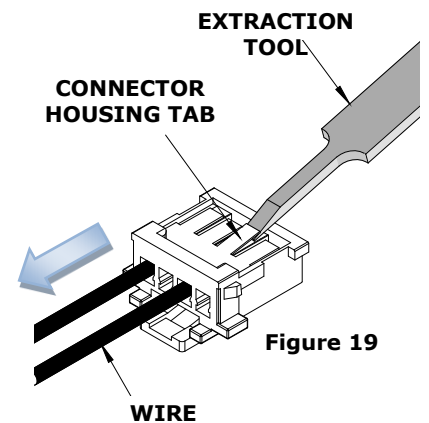

Figure 19
4. Gently lift up on the housing tab, and push the terminal back through the connector slot while pulling the terminated wire out in the direction of the arrow. See Figure 19.